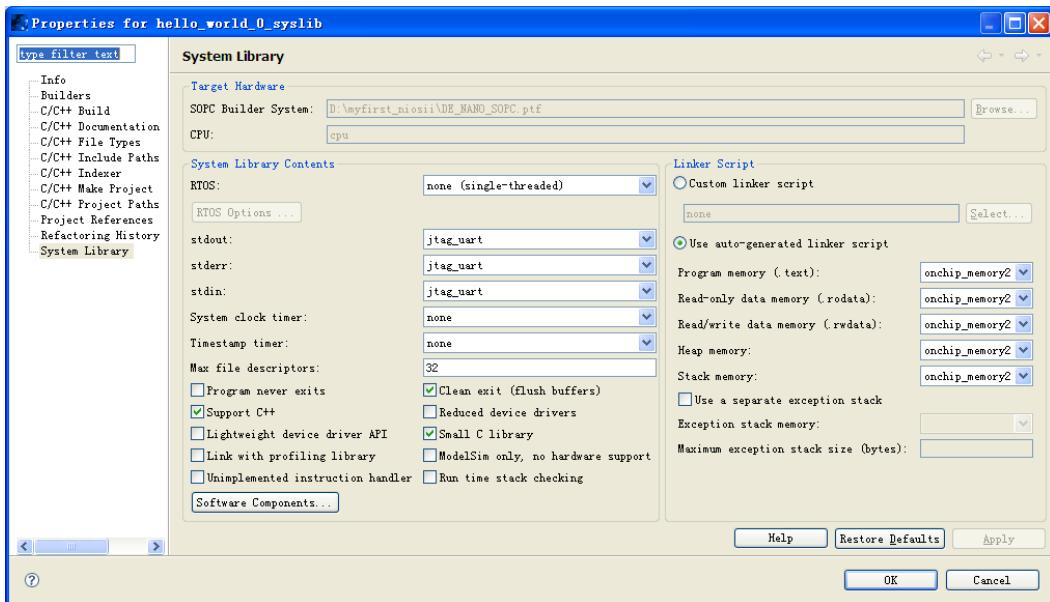

Figure 7-61 Configuring System Library Properties
3. In the **Linker Script** box, observe which memory has been assigned for **Program memory(.text)**, **Read-only data memory(.rodata)**, **Read/write data memory(.rwdta)**, **Heap memory**, and **Stack memory**, see Figure 7-61. These settings determine which memory is used to store the compiled executable program. You can also specify which interface you want to use for `stdio` , `stdin`, and `stderr`. You can also add and configure an RTOS for your application and configure build options to support C++, reduced device drivers, etc.
4. Select **onchip\_memory2** for all the memory options in the **Linker Script** box, as shown in Figure 7-61.